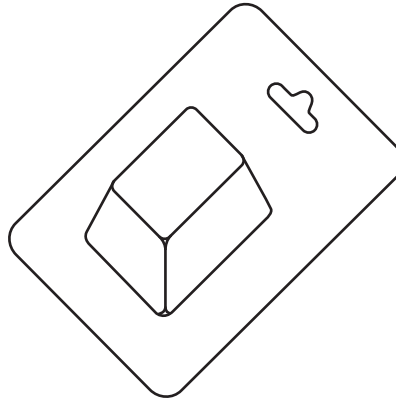

Figure 1
- 1 The vacuum forming process is used to manufacture the blister in the blister package shown in Figure 1.